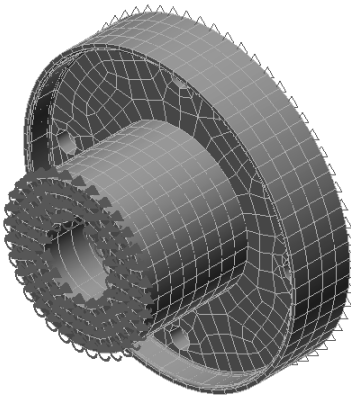
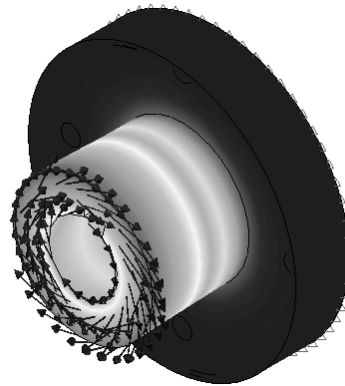

Figure 8-66 Moment applied on the front surface of the model
Figure 8-67 The model in the Result environment
The options available in the dialog box are same as discussed earlier. Specify the parameters of the surface moment, such as magnitude, axis of rotation, and so on in their respective edit boxes. Next, choose the **OK** button. Figure 8-66 shows a meshed model in the FEA Editor environment with the moment applied on its front face and Figure 8-67 shows the model in the Result environment. You will learn more about the Result environment of Autodesk Simulation Mechanical in the later chapters.
*You can also select multiple cylindrical surfaces for applying the bearing load by pressing the CTRL key. However, depending upon the number of surfaces selected, name of the dialog box invoked will be modified and will display count number. For example, on selecting one surface, the name of the dialog box invoked will be displayed as **Creating 1 Bearing Load Object**, refer to Figure 8-66. On the other hand, on selecting two surfaces, the name of the dialog box invoked will be displayed as **Creating 2 Bearing Load Objects**.*